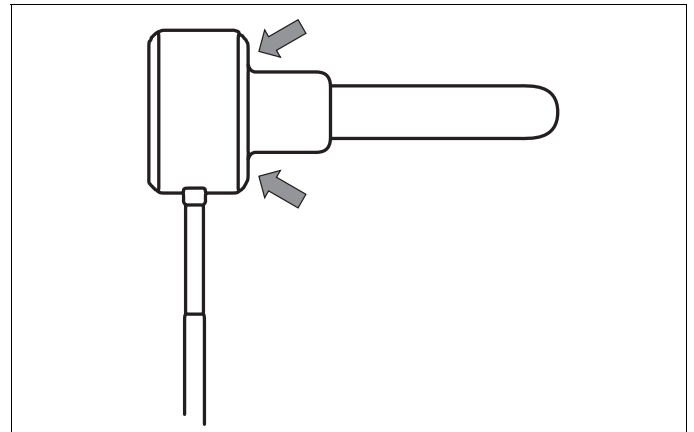

Fig. 905 Sealing surface of exhaust temperature sensor
- Sealing surface must be dirt-free (see Fig. 905).